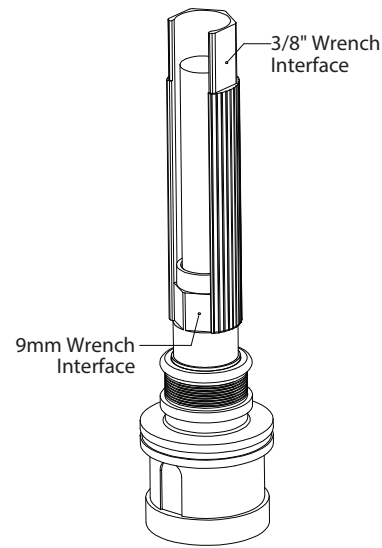

FIGURE 3
- Slide the retention ferrule forward. Then, using a 9mm wrench, or 3/8" wrench if using ferrule tool 607-011, tighten the retention ferrule to a torque of 8-10 in-lb. (Figure 3)